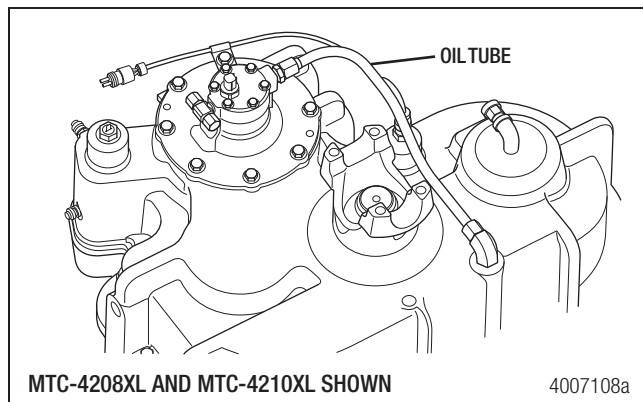

Figure 5.1
- a. Disconnect the transfer case oil inlet line from the oil pump cover. Figure 5.1.